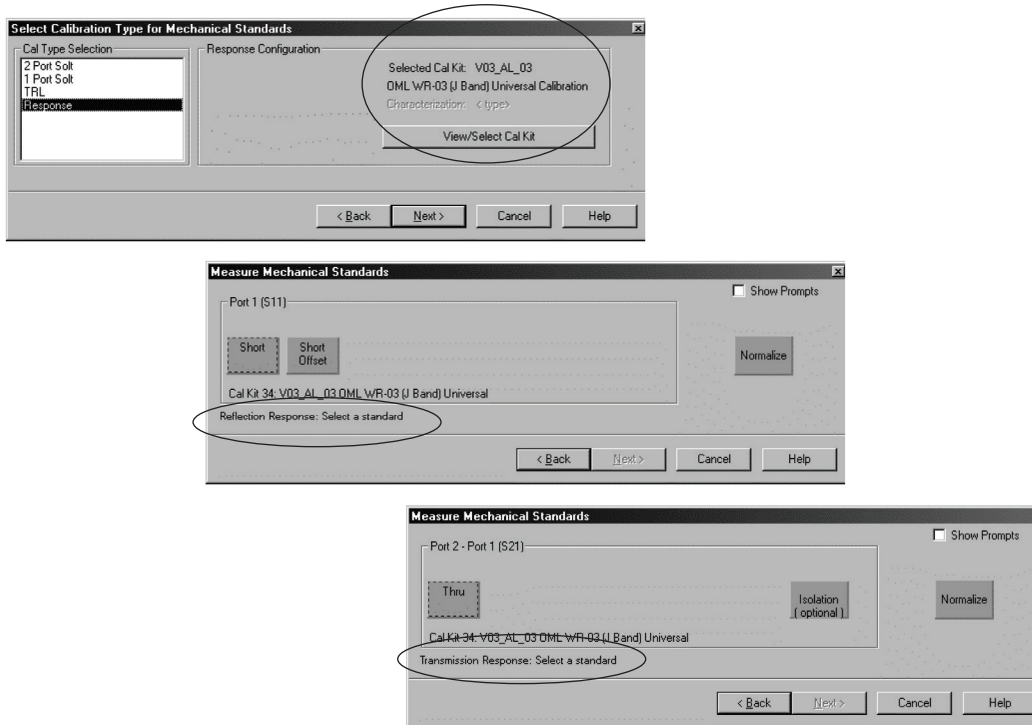

Figure 43. Response calibration and associated standard selection for Reflection Response and Transmission Response.
4. This returns to the previous page, and the Cal Kit information has been updated (Figure 43, top). Make sure Response is highlighted on the left. (If not, click on it once.) Click Next> to start the Response calibration.
Your Response calibration selection will be different depending on your active trace. If the active trace is S11, then you will see the standard selection for Reflection Response, as those shown in Figure 43 middle. If the active trace is S21, then the standard selection are those for Transmission Response, as those shown in Figure 43 bottom.